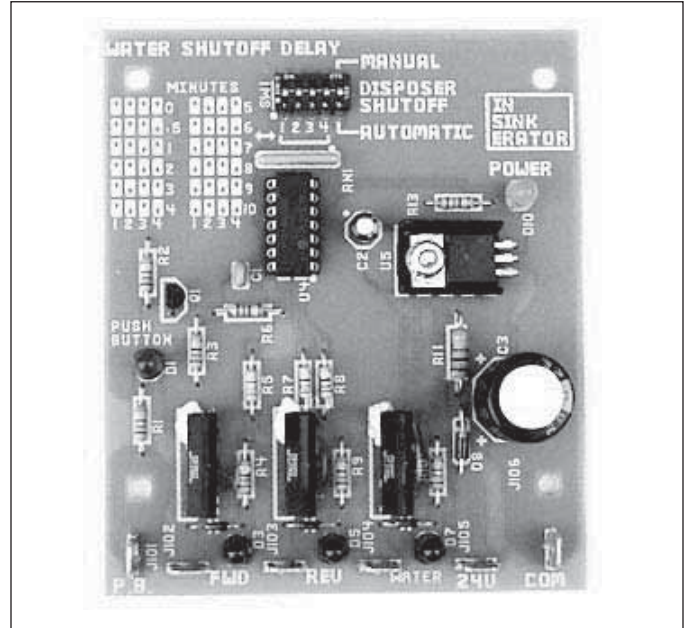
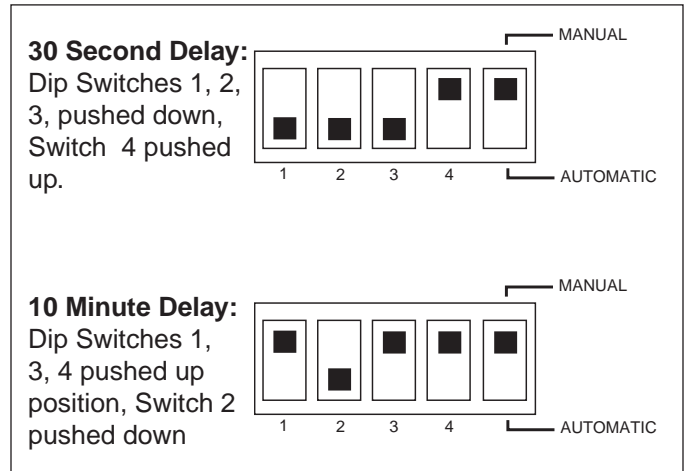

Figure 22.
Figure 23. Time Delay Setting Examples
This water shutoff delay is adjustable from 30 seconds to 10 minutes (see Figure 23). Set water shutoff delay for at least 2 minutes on trough systems.
Locate the water shutoff delay at the top of the printed circuit board in the WX-101A (see Figure 22). Set the dip switches for the desired water shut off delay. Use the guide printed on the circuit board to set minutes of delay (also see Figure 23). The dip switches should be moved to match the filled in areas of the guide.
**NOTE:** This feature is set in the manual position at the factory. To activate the automatic timed system shutoff, disconnect the electric power to the control center, then open the control center door. Locate the Dip Switch Module at the top of the circuit board (see Figure 22). Move the #5 dip switch from MANUAL to AUTOMATIC. The system now automatically shuts off 10 minutes after it starts.